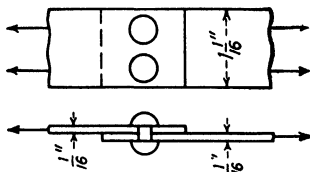

Fig. 323.—Lap joint, dural straps. Two  $\frac{1}{8}$  in., 2S rivets, driven cold.
98. Find the strength in tension of the riveted strap shown in Fig. 323.
99. What is the strength in shear of the joint in Fig. 323?